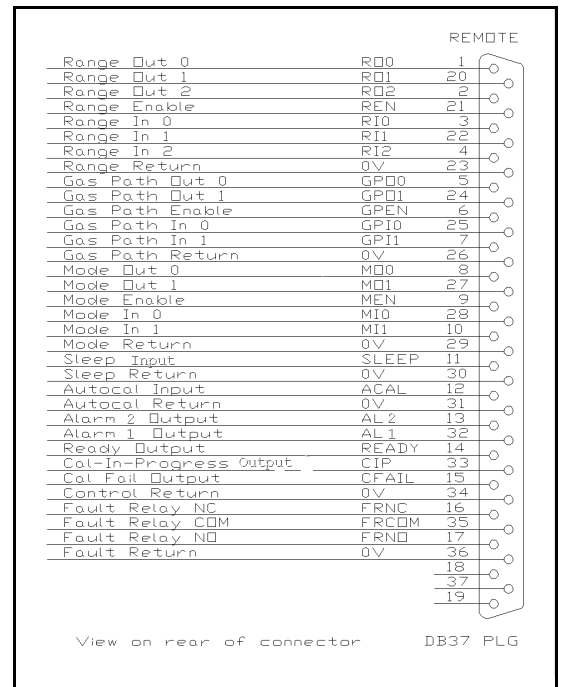

Figure 3 Remote Connections
- 3.7.2 The connector pin allocations are given in Figure 3. Not all functions are available in this analyser. Refer to section 7 for full information.